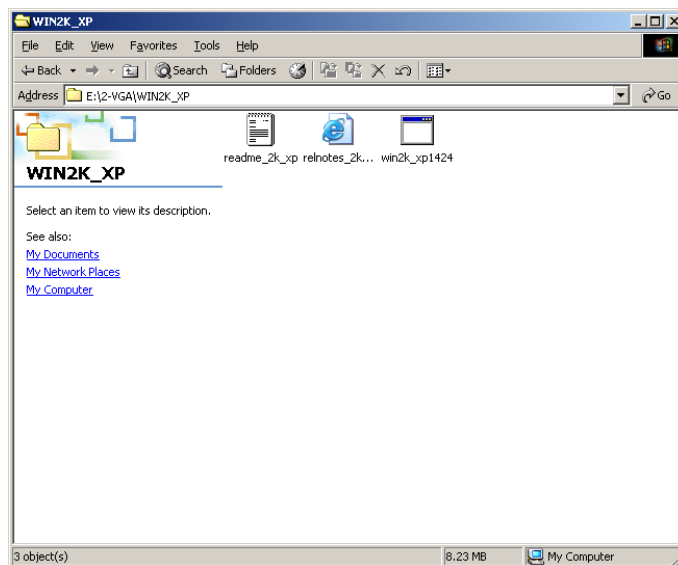

Figure 6-9: VGA Driver
Step 4: A new window appears (**Figure 6-9**).
Step 5: Click the installation program icon in **Figure 6-9**.